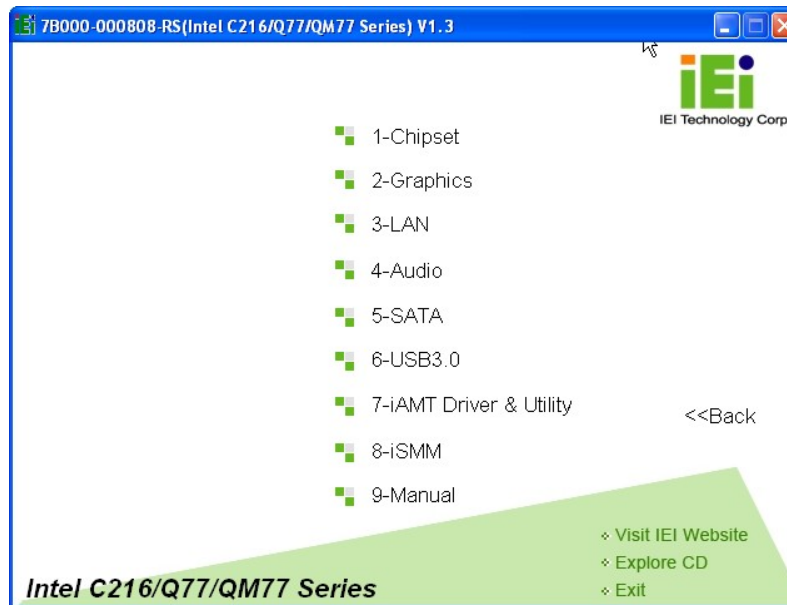

Figure 6-2: Drivers
Step 4: The list of drivers in **Figure 6-2** appears.